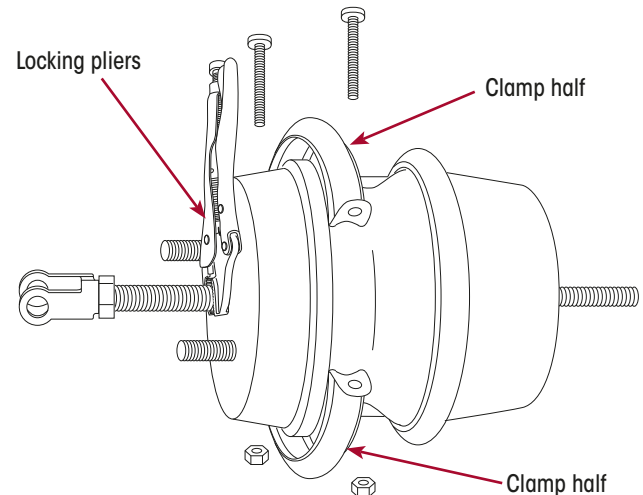

Figure 104: Remove Clamp Assembly
9. Firmly clamp the service push rod with a set of locking pliers to prevent release of the service brake chamber spring, which would hinder chamber reassembly. Refer Figure 104.
10. Remove bolts and clamp from service brake chamber. Refer Figure 104.